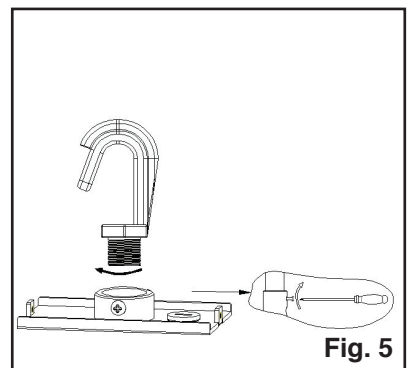

Fig. 5
5. Rotate the top cover of the junction box onto the pipe fixed to the ceiling, After tightening, use a screwdriver to install a setback screw on the NPT collar, Please refer to Figure 5